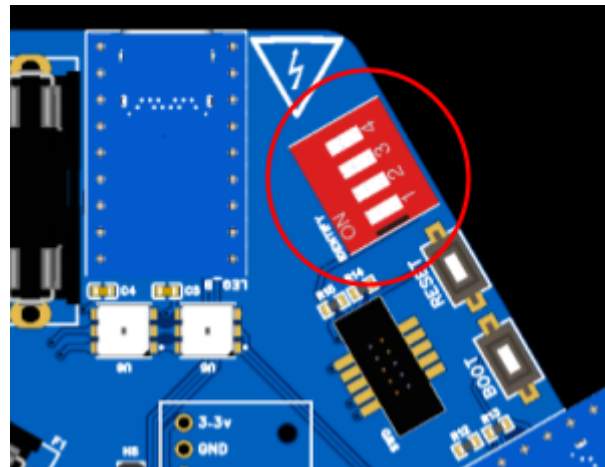

Figure 11: Mode Select DIP Switch
Mode selector which utilizes GPIO pins: G0, G1, G2, G3 to determine what mode is active. When the switch open is digital low (0), closed is pulled high to 3.3V (1). This is used to set up to 16 ( $2^4$ ) different modes. Location found in figure 11.